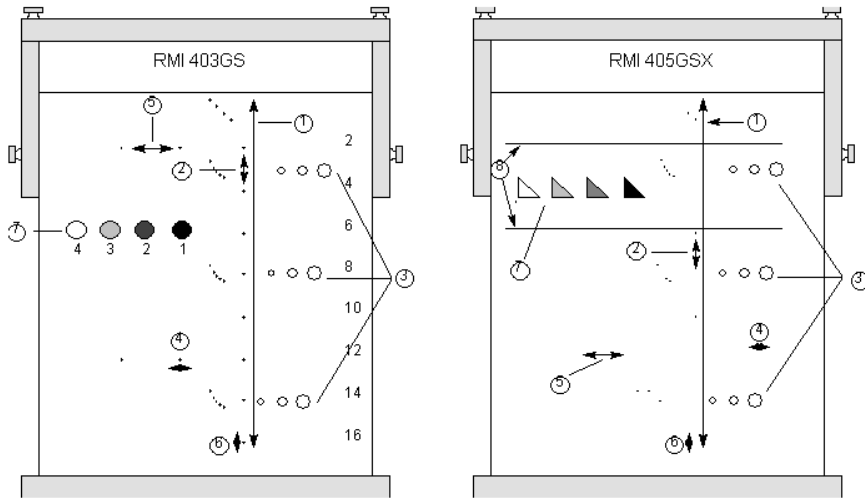

Figure 18-1. Phantoms
Description	Axial measurements are the distance measurements obtained along the sound beam. See Figure 18-1 for more information.
Description	Lateral measurements are distance measurements obtained perpendicular to the axis of the sound beam. See Figure 18-1 for more information.
Description Axial resolution is the minimum reflector separation between two closely-spaced objects to produce discrete reflections along the axis of the sound beam. It can also be monitored by checking the vertical size of known pin targets. See Figure 18-1 for more information.
Description	<p>Lateral resolution is the minimum reflector separation between two closely spaced objects to produce discrete reflections perpendicular to the axis of the sound beam. It can also be monitored by checking the horizontal size of known pin targets. See Figure 18-1 for more information.</p> <p>Lateral resolution is dependent upon the beam width produced by the probe. The narrower the beam, the better the lateral resolution.</p> <p>The beam width is affected by the frequency, degree of focusing, and distance of the object from the face of the probe.</p>
Description	<p>Penetration is the ability of an imaging system to detect and display weak echoes from small objects at large depths. See Figure 18-1 for more information.</p> <p>Penetration can be affected by the system's:</p> <ul style="list-style-type: none">• Transmitter/receiver• Degree of probe focusing• Attenuation of the medium• Depth and shape of reflecting object• Electromagnetic interference from local surroundings.
Description	<p>Functional resolution is an imaging system's ability to detect and display the size, shape, and depth of an anechoic structure, as opposed to a pin target. See Figure 18-1 for more information.</p> <p>The very best possible image is somewhat less important than reproducibility and stability over time. Routine tests at the same settings should produce the same results.</p>
Description	<p>Contrast resolution is the ability of an imaging system to detect and display the shape and echogenic characteristics of a structure. See Figure 18-1 for more information.</p> <p>Specific values measured are less important than stability over time. Routine tests at the same settings should produce the same results.</p>
- Description** Poor photography will cause loss of low level echoes and the lack of contrast between large amplitude echoes. See Figure 18-1 for more information.